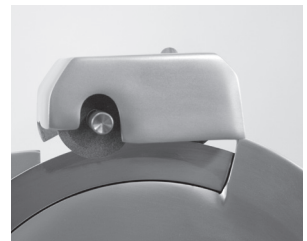

Figure 14-2
5. Lift the sharpener cover up (Fig. 14-1), rotate it clockwise and lower it into position with the knife fitting between the two stones (Fig. 14-2).